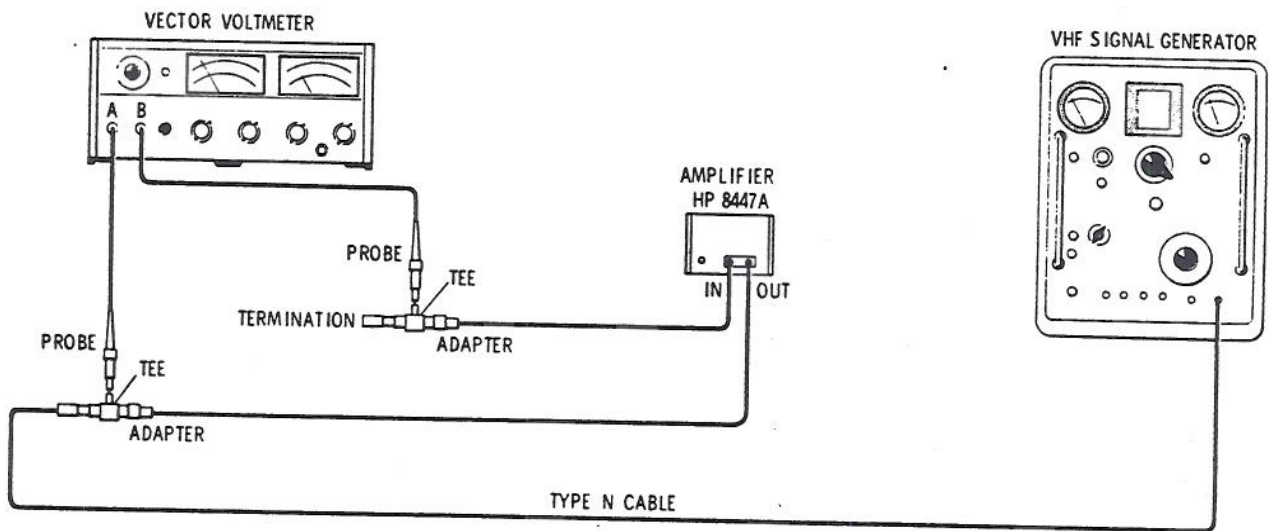

Figure 4-8. Reverse Isolation Test Setup
1. Connect the test setup as shown in Figure 4-8. Make the following control settings.